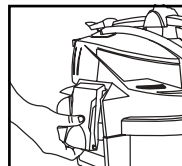

FIGURE 15
16. Replace the tank cover. Lift latches up and place in the grooves on the cover as shown in **FIGURE 15**. Push in on bottom of latches to lock in place.